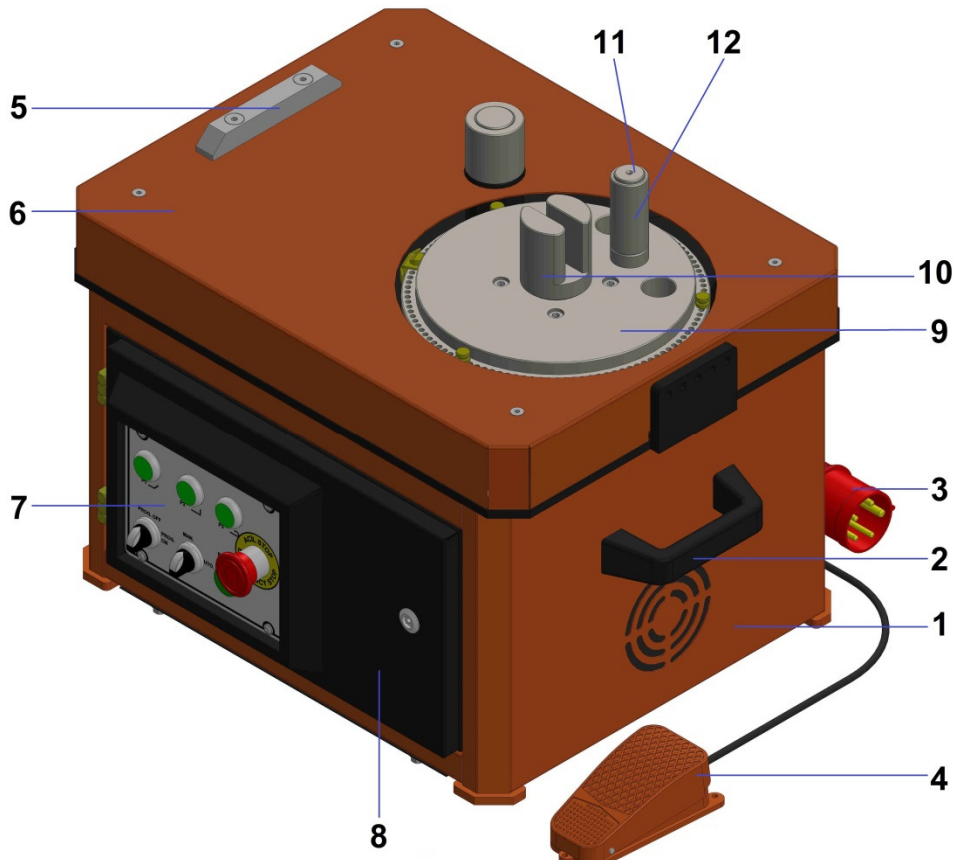
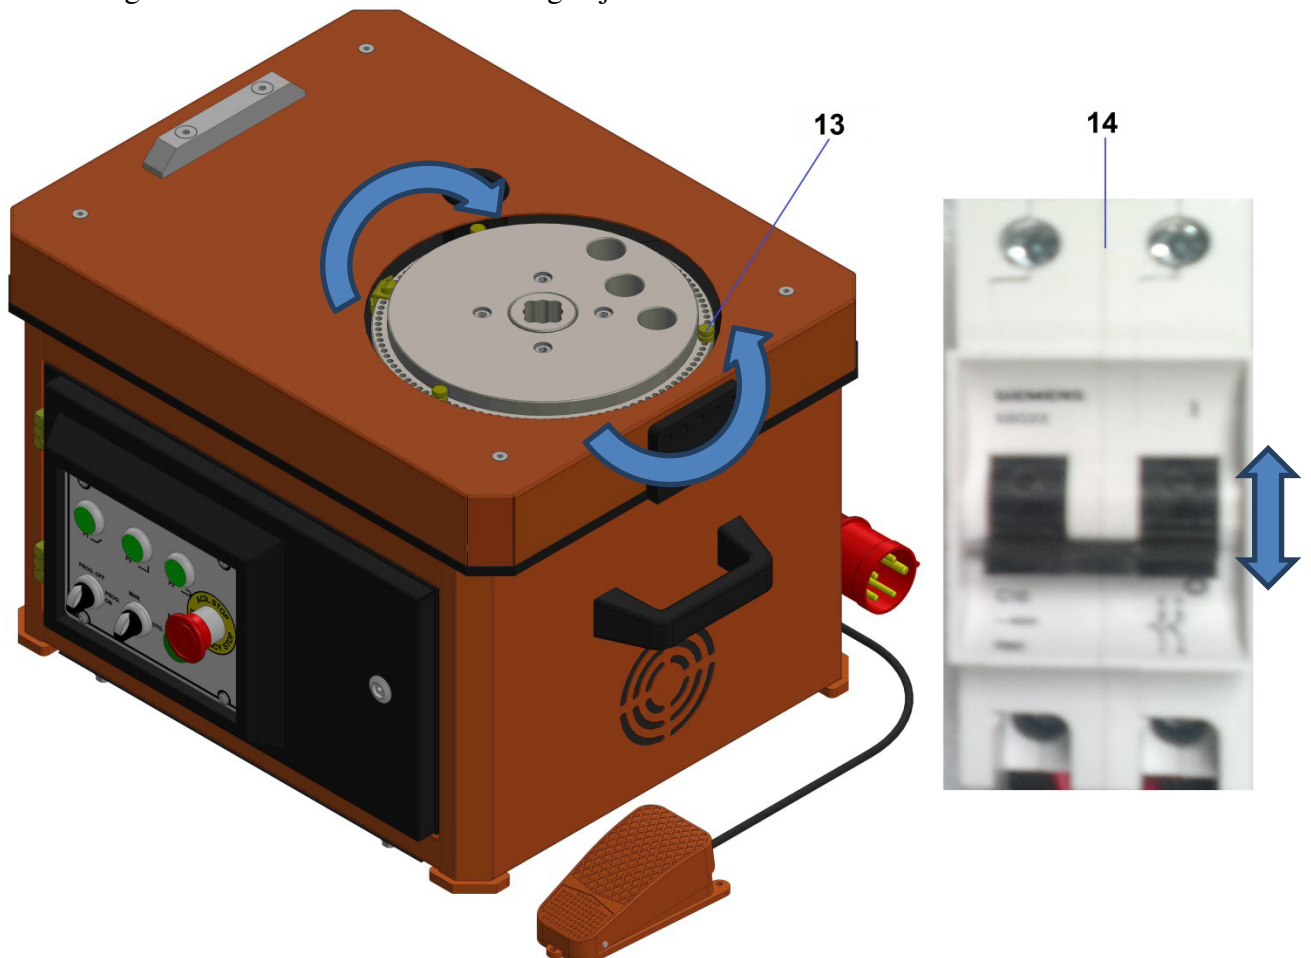

Figure 1: Main parts of bending machine
Figure 3: Detecting the rotation direction
- After the machine's power is plugged in (Figure:1 No:3) the electricity panel cover of the machine is opened (Figure:1 No:8) and main switch (Figure:3 No:14) is turned to position "1" from position "0" in order to run the machine. After this procedure for the digital models "ON-OFF" button is switched to position ON.
- MAN AUTO switch on the control panel of the machine is turned to MAN position and machine turning direction should be confirmed by pressing on the foot pedal (Figure:1 No:4).
- Rotation direction is approved by taking the front of the machine as reference, clockwise of the bending flange in Figure:1 No:9 as right and counter-clockwise as left. Bending must be made on the machine with right rotation. If the bending flange is rotating to left when the machine is operated, it means electricity phases are coming to the main switch reversed. This situation doesn't effect the running system of the machine. In such cases change the LEFT-RIGHT positioning of your machine from control panel if your machine is digital or have competent electricians to change the direction of phases if your machine is manual.
- Connect the stirrup head, straight pin and bending sleeve (Figure:1 No: 10,11,12) fitting with the diameter of the iron you want to bend to their places on the bending flange.
- Adjust the angle you want to bend by using the holes around the bending flange with the switch pins (Figure:3 No:13) delivered with the machine.